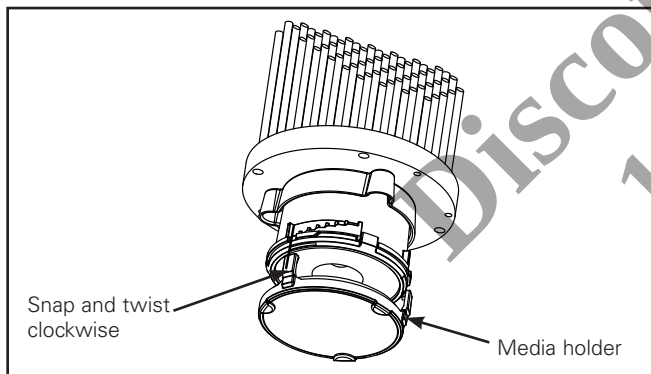

Figure 6
2. Also available, is a single/double media holder. To install, place the media holder onto the media holder. Engage snaps at bottom of snap staircase. Twist clockwise until tight (see Figure 6).